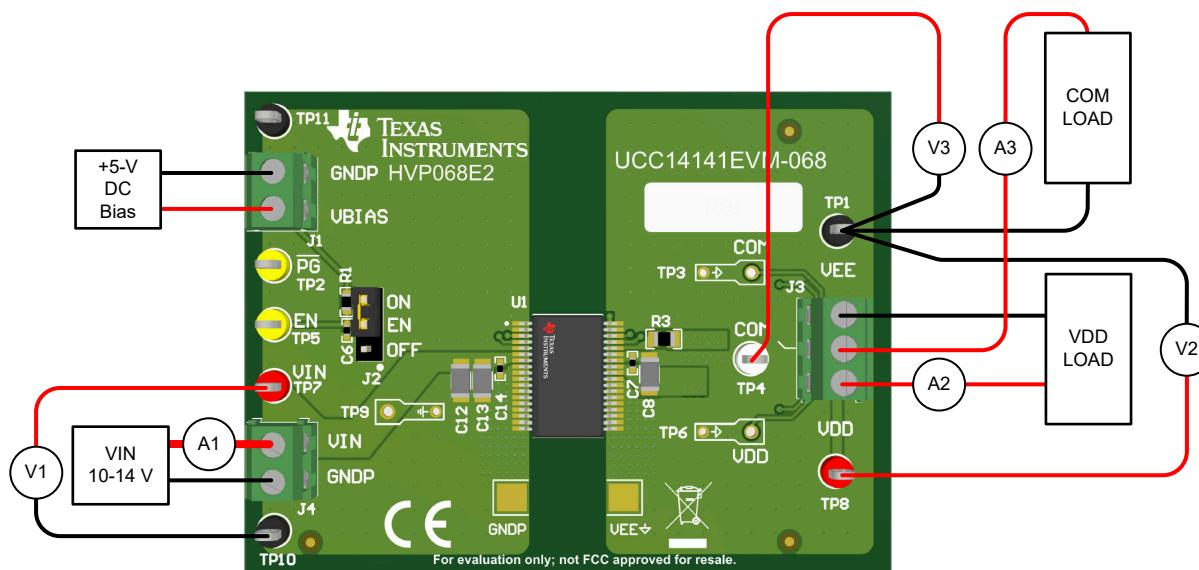

Figure 4-1. Typical Efficiency Measurement Setup
The UCC14141EVM-068 EVM uses screw terminals for quickly connecting to the V_{IN} , VDD , and VEE pins. Connecting the appropriate ammeters and voltmeters, as shown in Figure 4-1, allows accurate EVM efficiency measurements to be made.
4. Connect a variable load between J3:1 (VDD) and J3:3 (VEE). If using an electronic load, set to constant current (CC), 68 mA. Leave the load disabled until the EVM is powered.
5. Connect a second load between J3:2 (COM) and J3:3 (VEE). If using an electronic load, set to constant current (CC), 10 mA. Leave the load disabled until the EVM is powered. Since the required load is small, a through-hole, 250-mW, 400- Ω load resistor can be connected between J3:2-3.
6. Some electronic loads are not be able to regulate/stabilize CC when setting in the low mA range. Monitor the input current and load currents by inserting ammeters, A1-A3, as shown in Figure 4-1. Use a current probe with the oscilloscope to verify the stability of the DC current being regulated by an electronic load.
Table 4-1 describes the various EVM test points, allowing easy access for connecting oscilloscope probes, DVM test leads and wire connections to lab test equipment as shown in Figure 4-1. Pay attention to maintain separation between the primary side, GNDP and secondary side, VEE. Primary-side test points are not to be referenced to VEE through improper test equipment insertion. Likewise, secondary-side test points are not to be referenced to GNDP through improper test equipment insertion.